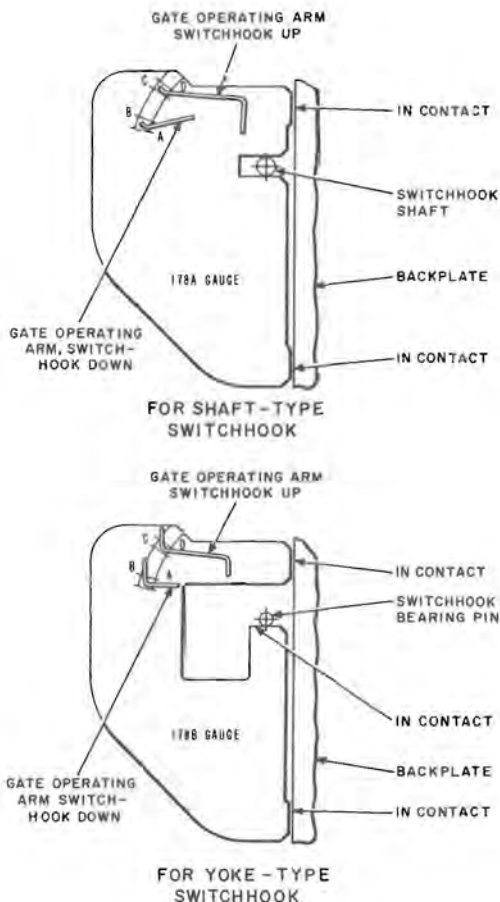

Fig. 38—Use of 178-Type Gauge
- (1) Deposit a single nickel which should be stopped by holding latch
- (2) Lower switch hook slowly to release nickel.
- 6.70 If requirement in 6.69 is not met, check operating arm using 178A or 178B gauge (Fig. 38).